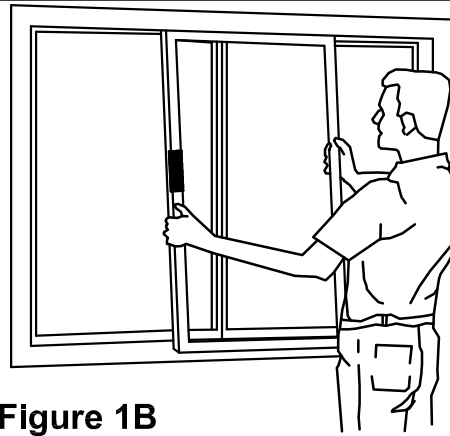
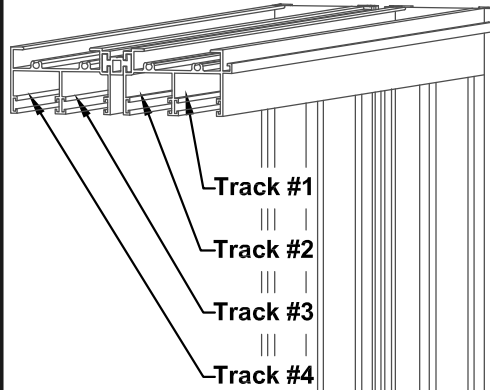

Figure 1B
Figure 2B
1. Grasp the sash firmly at the side rails, (Figure 1B) and insert the top of the sash into track "#1" (Figure 2B) of the storm frame until the bottom of the sash can be dropped onto the bottom track rail.
3. Insert the top rail of the screen into track "#1" (Figure 2B) of the storm frame right beside the non-operating storm sash.
2. Slide the sash open to the center of the frame. Grasp both side rails of the sash and raise up into the upper frame high enough to clear the bottom of the frame. (Figure 1B)